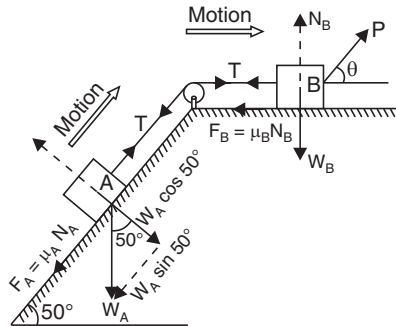

Fig. 6.37
**Sol.** Refer to Fig. 6.37
**Block B :** The friction force on block B acts in the leftward direction, since the impending motion of block B is towards the right as shown in Fig. 6.37.